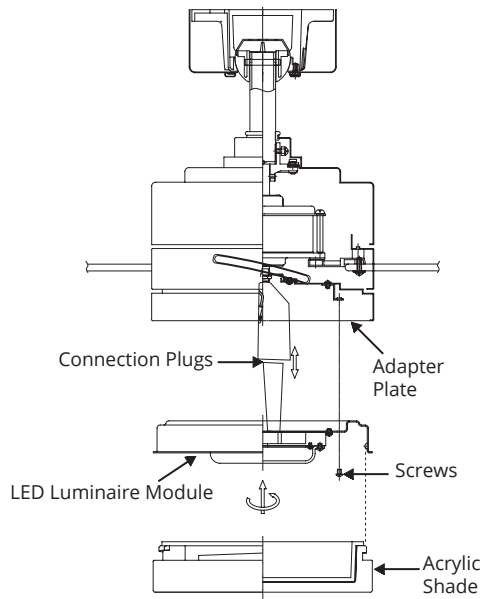

FIG. 19
2. Raise and hold the LED luminaire module close to the mounting plate and proceed to secure the wire connections. Connect the white wire connectors from the luminaire module to the white wire of the fan. Follow the same procedure with the black wire connectors (FIG. 19).
3. Tuck connections neatly into mounting plate, Place the luminaire module key holes over the 2 screws previously loosened from the mounting ring, turn luminaire module until it locks in place at the narrow section of the key holes. Secure by tightening the 2 screws previously loosened and the one previously removed (FIG. 19).